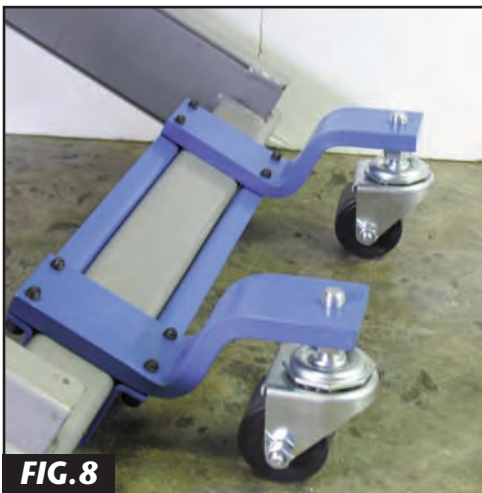

FIG.8
10. Raise bike lift to its highest point. At this point both caster wheels should be pushed to the floor, lifting the rear of bike lift by approximately 1/4". **See Fig 8.**